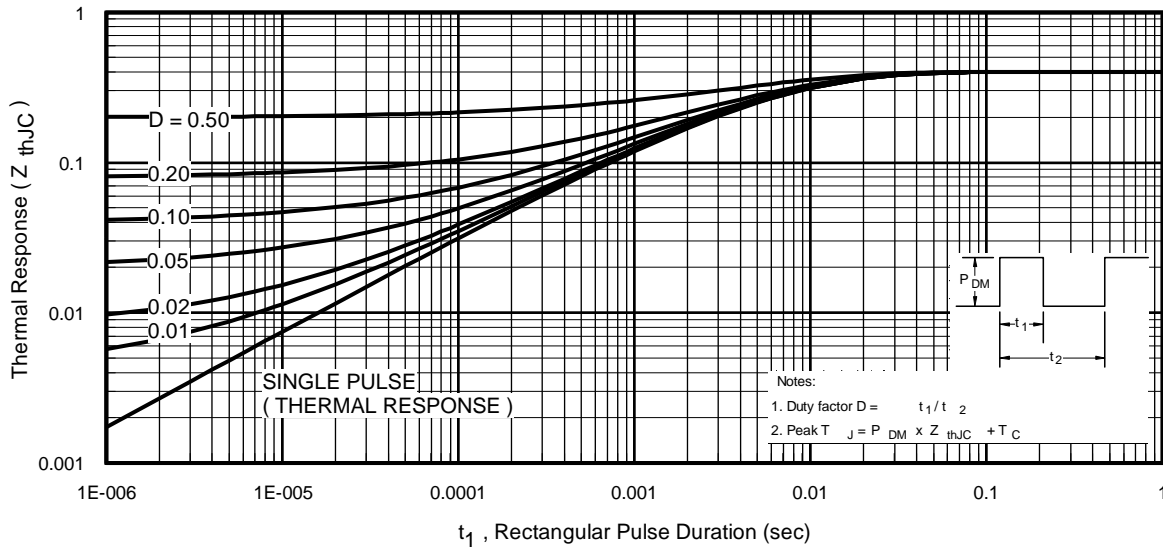

Fig 12. Maximum Effective Transient Thermal Impedance, Junction-to-Case
- ① Repetitive rating; pulse width limited by max. junction temperature. (See Fig. 12)